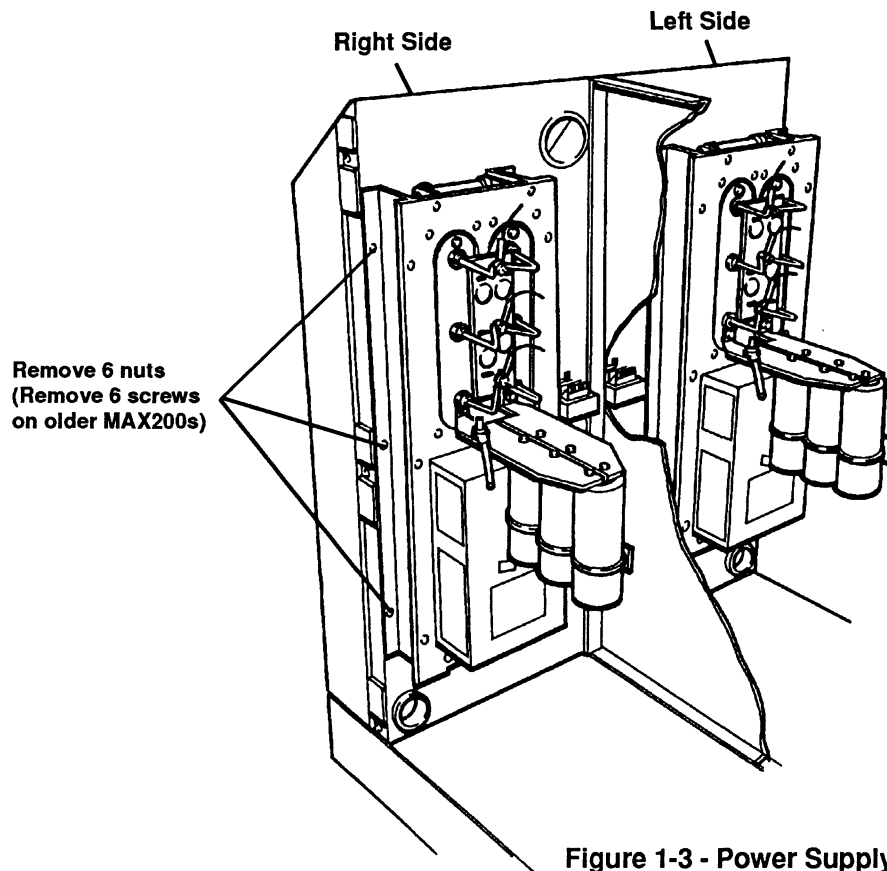

Figure 1-3 - Power Supply - Chopper Removal
1. Loosen the six nuts (six screws on older MAX200s) that secure each chopper module assembly to the power supply front wall and remove chopper. (Fig.1-3)